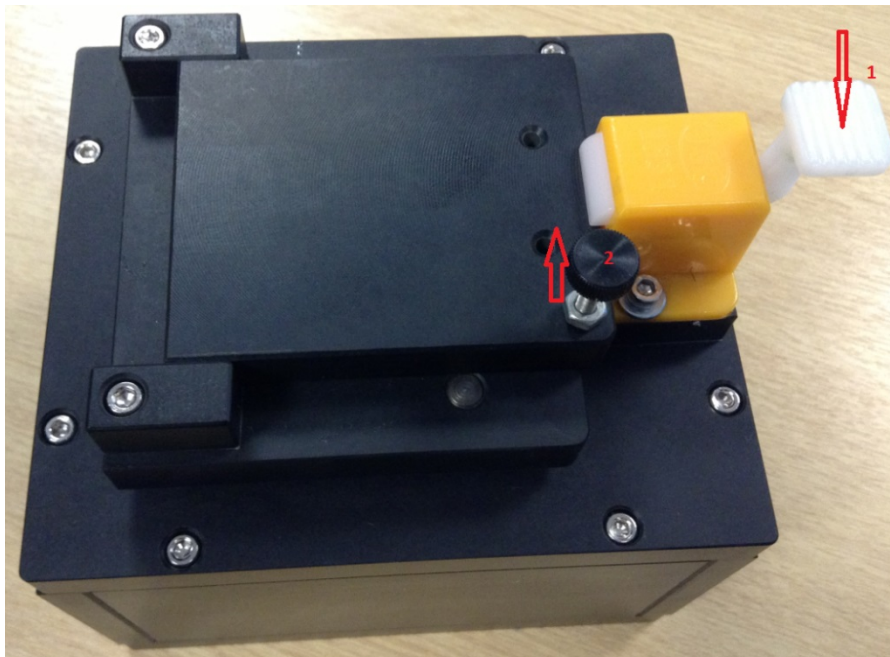

Figure 1: BL600 programming Jig
1. Release the latch by pushing the white lever (1) down and lifting the handle (2). (Figure 1)